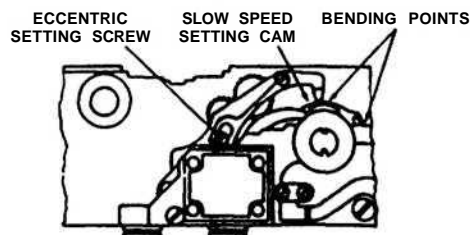

Figure 4-11. Slow Shutter Speed Adjustments.
- b. Slow Shutter Speeds (fig. 4-11, 4-12).
(1) *Adjusting escapement for 1/8-second* (fig. 4-11).
(2) *Adjusting slow speed setting cam* (fig. 4-11).